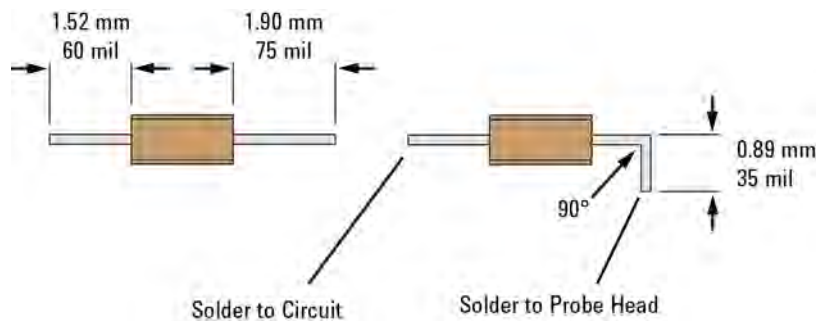
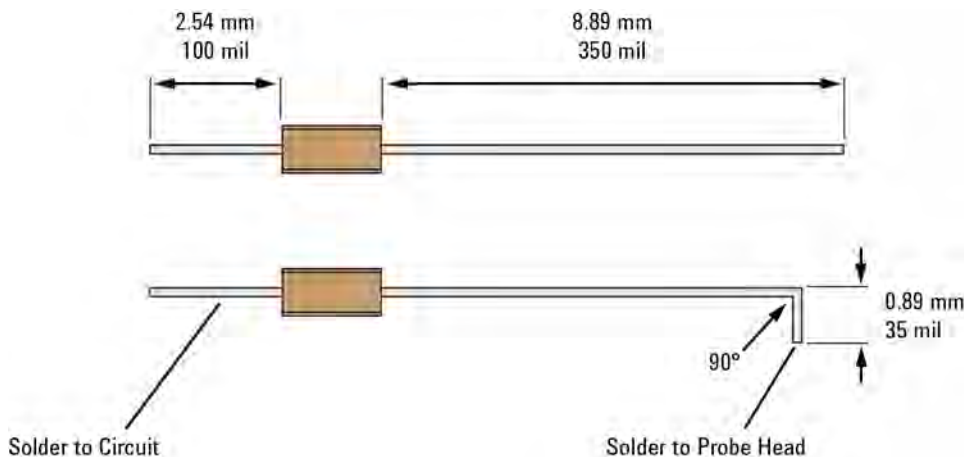

Figure 37 91 Ω and 0 Ω Combination Resistor Trim Dimensions
Figure 38 150 Ω and 0 Ω Combination Resistor Trim Dimensions
- 9** Using another pair of tweezers, bend the 1.90 mm or 8.89 mm lead 90° as shown in Figure 37 and Figure 38.